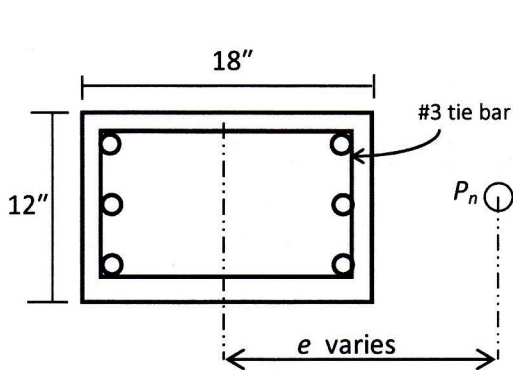

Figure 3: Section of column
- b. A 12" × 18" column is reinforced with six #9 bars as shown in **Figure 3**. Determine,